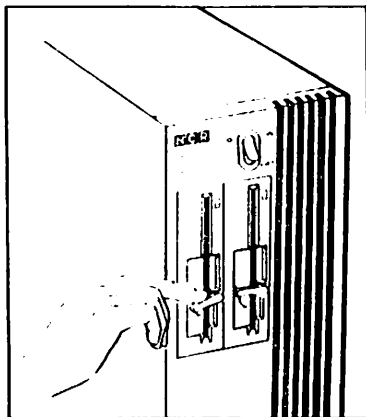

Figure 3 Disk access door
Figure 3 shows the floppy disk drive. The drive is less than 2 inches wide and has a lever that makes a quarter turn to either block or unblock the drive unit slot; its red indicator is on the right side of the drive unit slot.
2. Open the disk access door with the tip of a finger by turning the lever counterclockwise 1 quarter turn to unblock the drive unit slot (Figure 3).